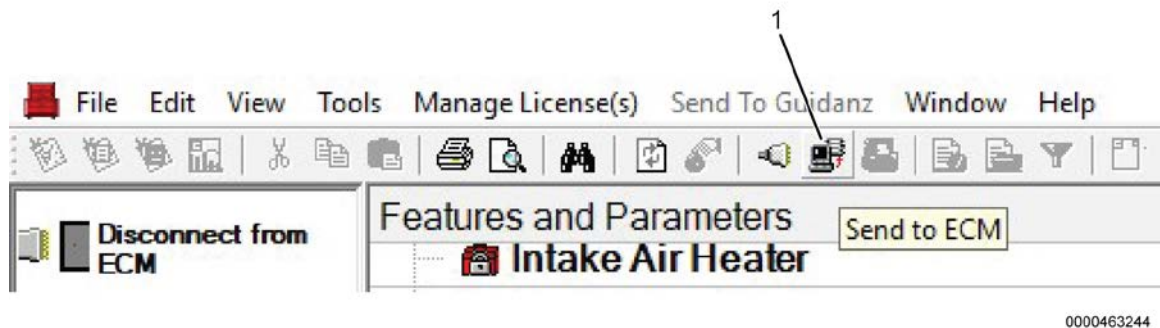

Figure 2: Send to ECM
12. Select SEND TO ECM button (Figure 2, Item 1).